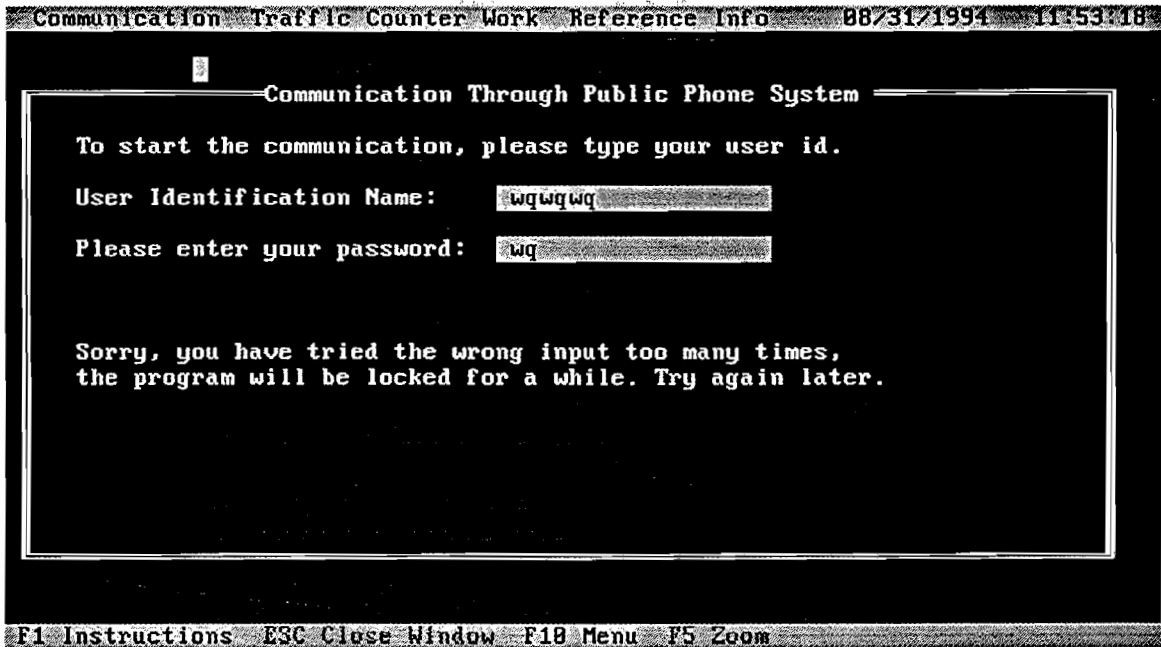

Figure 7.6 Error message display for communication login
7.2.3.1 Login for Communication. To use the public phone system for data communication work, the operators must prepare the hardware for the HP 200LX as described in sections 5.2 and 5.3. Then operators log in by typing the correct user ID and password combination. Incorrectly entering the user ID and password combination more than three times will result in the screen shown in Figure 7.6; the program sounds an alarm and then locks for a brief period.